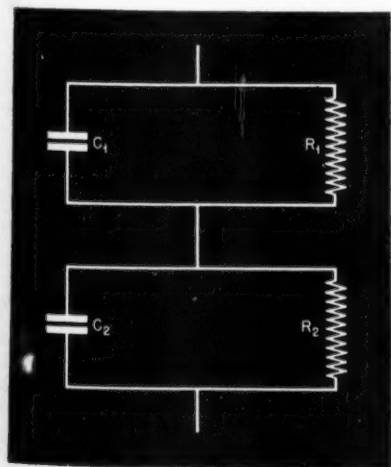

Fig. 1. Equivalent circuit of an electrolytic condenser
Frequency characteristics of the equivalent circuit (Fig. 1) for different values of R_s . The solid line in (A) above, and (B) below, shows the resulting curve when the resistivity of the electrolyte is decreased with respect to that represented by the dotted line
An electrolytic condenser can, like other electrical devices, be represented by a number of equivalent circuits. Of these the simplest and one which admits of the most straightforward physical interpretation is shown in Fig. 1. This R-C network is constituted as follows: